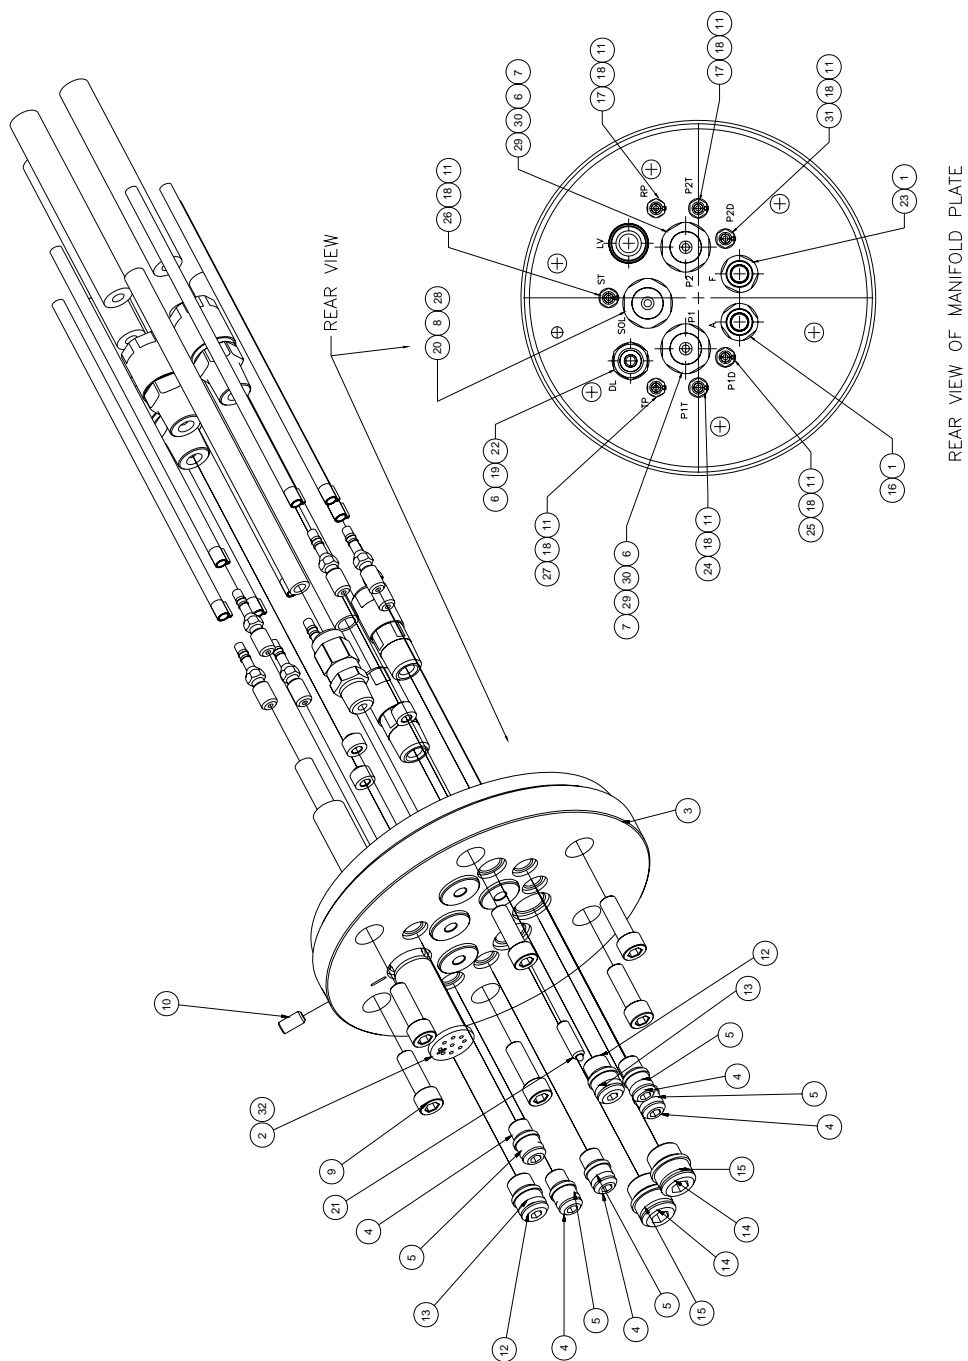

Figure 27a: 79156 Rear Tubing Manifold Assembly - English
**79156 REAR TUBING MANIFOLD ASSEMBLY PARTS LIST - ENGLISH (Figure 27a)**
(For 79156 Rear Tubing Manifold Assembly - English, See Figure 27a.)